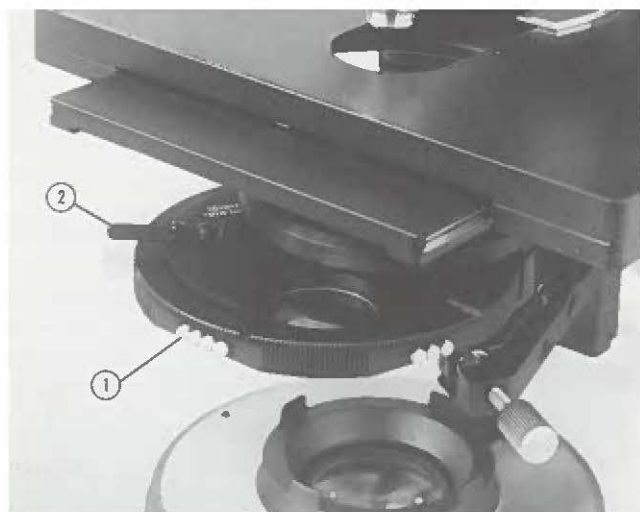

FIGURE 6-4 SUBSTAGE EXCITER FILTER TURRET
6.3 Exciter Filters The 31-32-58/31-32-59 Filter Turrets with paraboloid/cardioid condensers provide convenient means for the rapid selection of the desired exciter filter. The five filter positions are indexed and are identified by colored raised dots (Figure 6-4) so you can immediately identify by sight or by feel (in a darkened room) which filter is in use. A clear aperture is provided for normal darkfield illumination.
6.4 Prevention of Specimen Fading To prevent specimen fading when observation is not in progress, the exciting energy may be blocked off with a convenient occluder. Simply move the lever (Figure 6-4) all the way to the left.